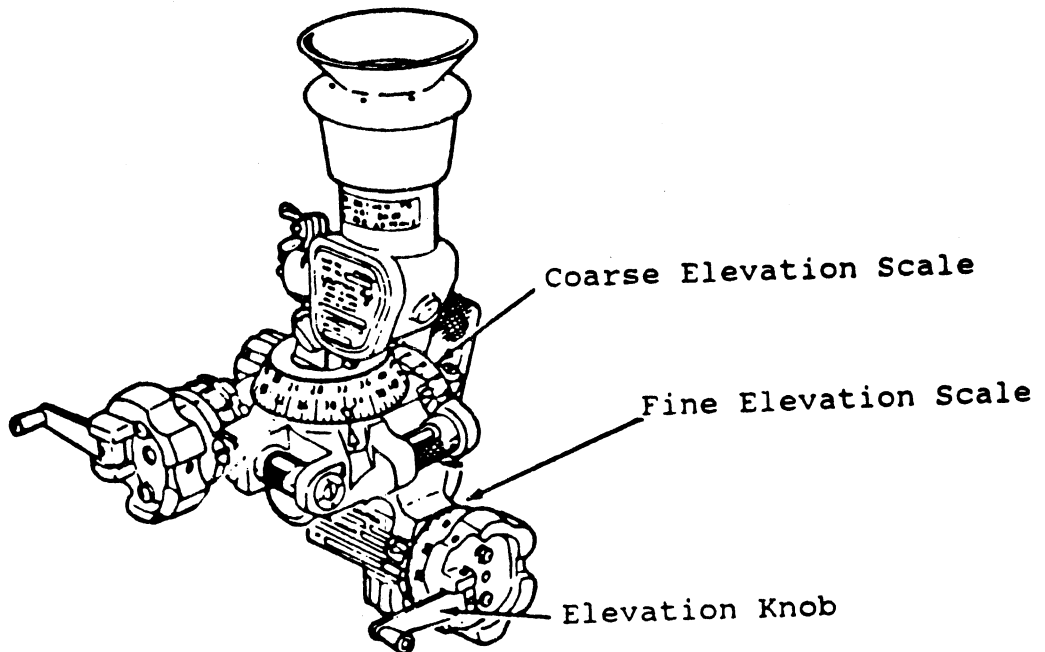

Fig 2-7. Placing elevation settings on the sight.
- (a) The first two digits are always placed on the coarse elevation scale (fig 2-7). You accomplish this by unlocking the elevation locking knob and rotating the elevation knob (fig 2-7) clockwise or counter-clockwise, as necessary, until the desired number is aligned with the coarse elevation scale white index arrow.
- (b) The last two digits are placed on the fine elevation scale (fig 2-7). You accomplish this by rotating the elevation knob clockwise until the desired number is aligned with the fine elevation scale white index arrow. Then lock the elevation locking knob.